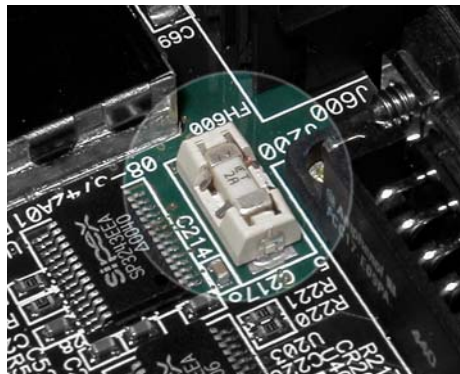

Figure 5-4.
4. Locate the fuse and fuse holder between the COM1 port and the power connector. See Figure 5-4 for details.